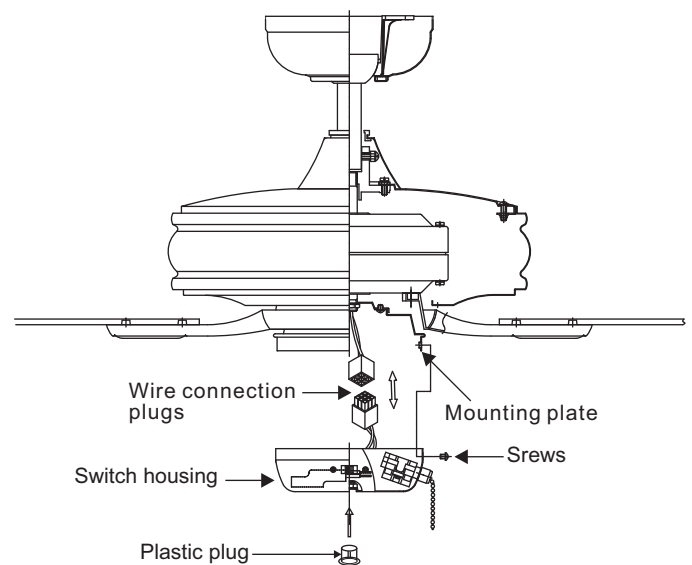

Figure 17
2. While holding the switch housing under your fan, snap together the wire connection plug. (Fig. 17)
3. Attach the plastic plug to the switch housing. (Fig. 17)